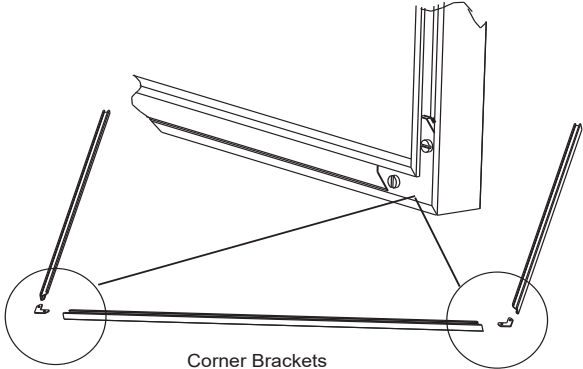

Figure 21.1
- 3. Assemble trim as shown in Figure 21.1.